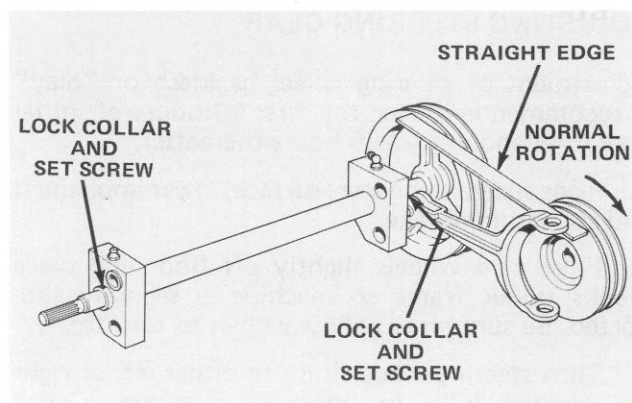

Figure 65
3. Loosen set screws in lock collars at front and back of PTO pivot shaft (Fig. 65). Using a punch and hammer, loosen collars by driving them opposite the direction of normal shaft rotation. The PTO shaft and PTO pulley assembly should now be free to slide.
pulley, with top of PTO pulley (Fig. 65). When top of pulleys are aligned, bottom of pulleys are misaligned by 3°. Move PTO pulley until it is in line with the engine pulley. Then lock the pivot shaft and pulley in place by tightening the lock collars in the normal direction of shaft rotation (Fig. 65). Check alignment of pulleys again to assure alignment did not change when collars were tightened. If alignment is still correct, tighten lock collar set screws.